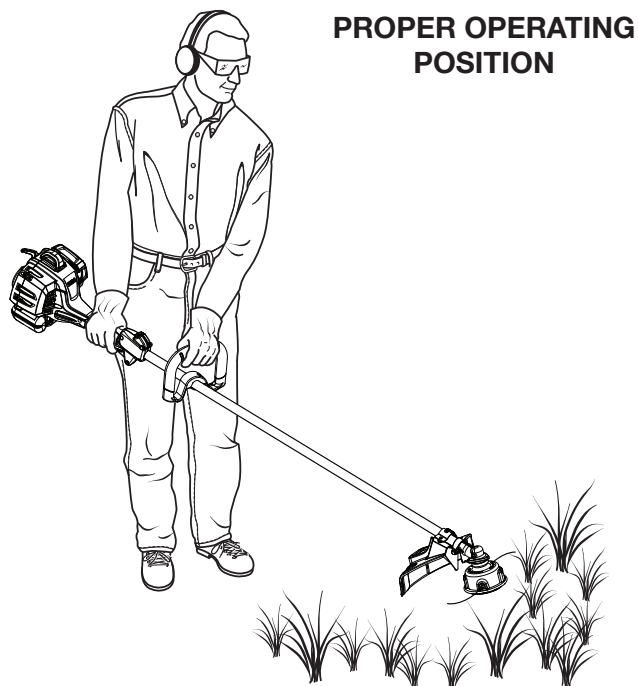

Figure 7
See Figure 7.
Engine housing may become hot during trimmer operation. Do not rest or place your arm, hand, or any body part against the engine housing during trimmer operation. Only hold the trimmer as shown in Figure 7 with all body parts clear of engine housing. Extended contact with the engine housing can result in burns or other injuries.
See Figures 7 and 9.
1. Avoid hot surfaces by always keeping the tool away from your body. (Proper operating position is shown in figure 7.)